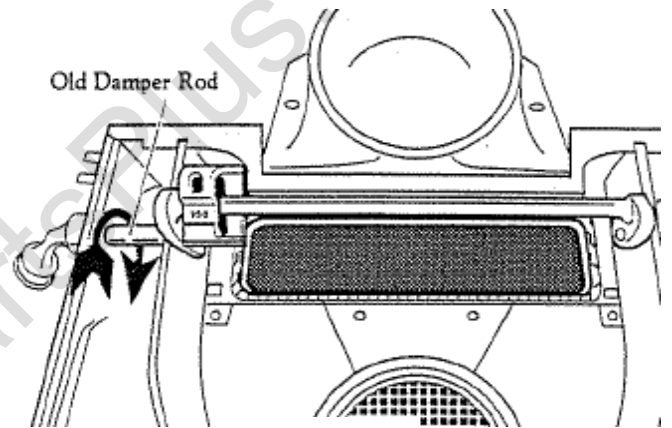

Fig. 7
5. Disconnect the old damper rod from the crank by rotating both the crank and the adjuster as a unit in a counter-clockwise direction (facing the left end of the stove). As you rotate the crank and adjuster plate through the high point of the arc, you will need to maneuver the adjuster plate somewhat to clear the back plate of the stove (**Fig. 7**). Unscrew the damper rod from the stove.